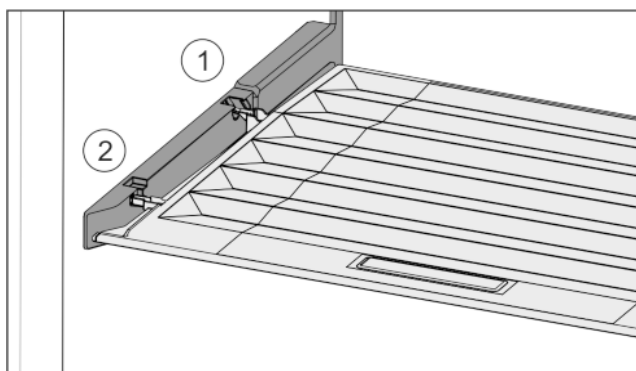

Fig. 31
- ▶ Insert the lip of the cover over the opening of the rear bracket Fig. 31 (1) and click into place Fig. 31 (2).